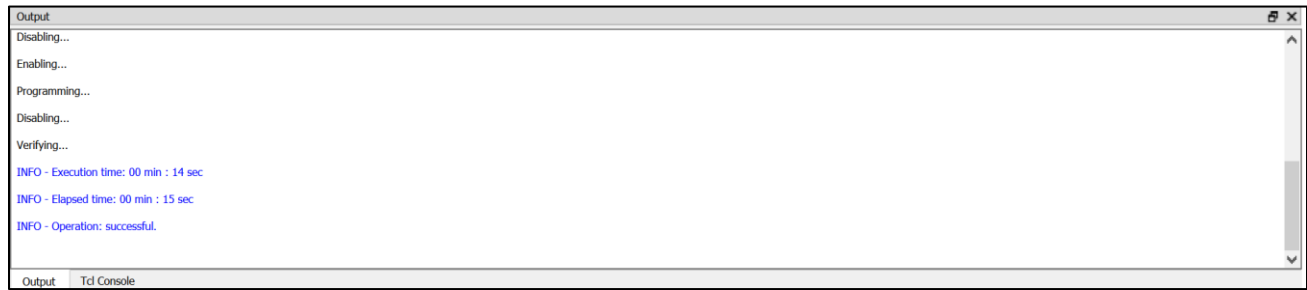

Figure 4.10. Lattice Radiant Programmer – Output Console
7. After successful programming, the **Output** console displays the result, as shown in Figure 4.10.